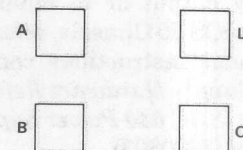

Figure 2-6B. iSBC 614 Cardcage Wirewrap Posts
- 19) Install a wire connecting wirewrap post B to post L on the right-most cardcage. Reference figure 2-6B. More information is available in the *MULTIBUS Interfacing Application Note, AP-28*.